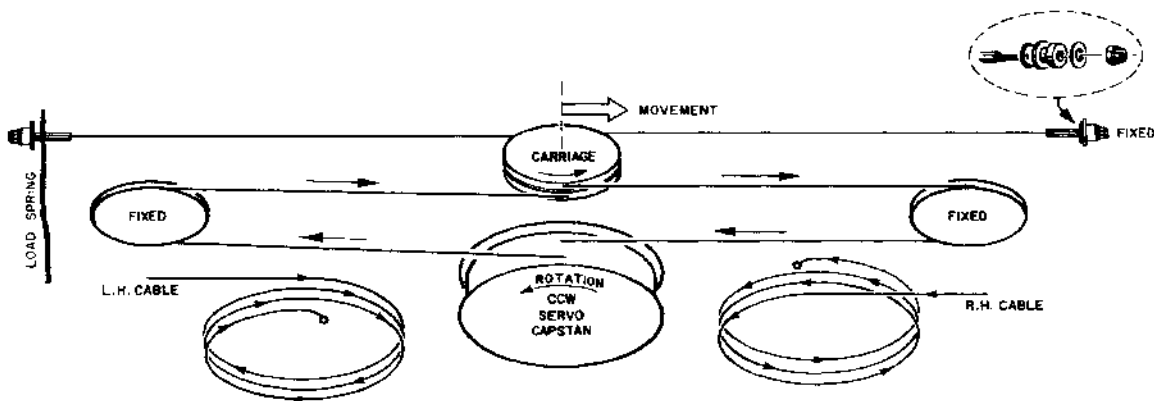

Figure 3-16. Carriage Drive Cable Routing
- (1) On the replacement carriage servo motor, lightly coat those surfaces which will contact the printer's frame with heat sink compound. With the printer still up on the front end of its frame, orient the servo motor with the capstan up, and the two-wire power cable to the left (as viewed from the bottom of the printer) and move it into position in the printer's frame.
- (2) Using a 1/4" wrench, replace the two hex head thread forming screws and two flat washers to hold the motor in place. Tighten the screws securely.
- (3) Arrange the two attached cables along their respective routings (as noted during removal) and secure the wire bundle with tie wraps. Plug the transducer cable into the J8 connector on the CAR SERVO board in slot C of the motherboard and plug the two power wires onto the B75 (blue wire) and C75 (red wire) connectors on the CAR PWR AMP board in slot D of the motherboard.
- (4) Set the bottom plate back into position, and replace the four fastening screws using a TORX T15 screwdriver to tighten them. Set the printer back down on its feet.
- (5) Study the carriage drive cable arrangement shown in Figure 3-16. Assemble an O-ring, cable hub, lockwasher, and locknut on the end of the replacement carriage drive cables. Screw the nut onto the cable shank far enough to allow two threads to show on the free side of the nut. Hold the cable shank securely with a wrench while driving the nut on, to avoid twisting the cable.
- (6) Insert the ball end of this cable through the cable hole in the right side frame. Engage the cable's ball into the notch on the outside rim of the servo motor capstan.
- (7) Hold a slight tension on the cable, and turn the capstan CCW (viewed from the printer's front) to wind on almost all of the cable (slightly more than four complete turns).